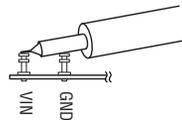

Figure 3. Measuring Input or Output Ripple
**NOTE.** When measuring the input or output voltage ripple, care must be taken to avoid a long ground lead on the oscilloscope probe. Measure the input or output voltage ripple by touching the probe tip directly across the VBUS or VOUT(x) and GND terminals. See Figure 3 for proper scope probe technique.